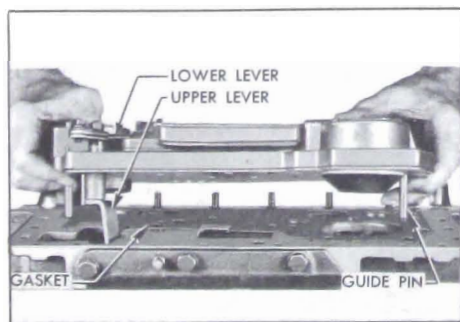

Figure 5-123—Installing Valve and Servo Body Assembly
3. Push shift control valve and lower operating lever inward to align the upper lever with opening in case and install the valve and servo body on transmission case. See Figure 5-123.